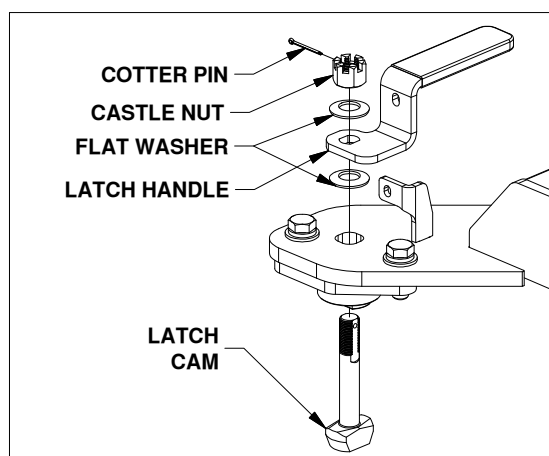

Figure B5: List of latch parts.
4. **Adjust the tension in the latch handle**, for parts list and visual guide refer to Figures B5 and B6.